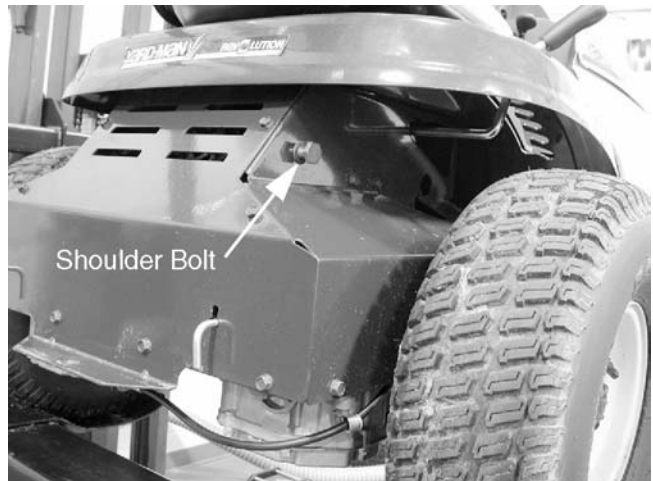

Figure 11-17
12. Remove the bolts that hold the rear cover to the frame using a 1/2" wrench. See Figure 11-17.